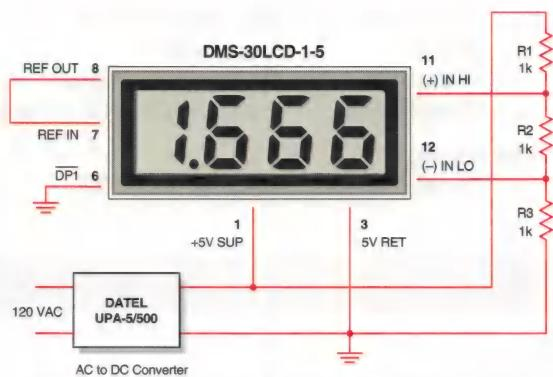

Figure 3. Differential Input Configuration (5V-Powered Models)
2. Differential Input Configurations: Differential measurements can be made with either 5V-powered or 9V-powered meters. Figure 3, though not a practical real-world application, uses a voltage divider to demonstrate the concept of a differential input signal. Be careful not to exceed the $\pm 2V$ common mode voltage limitation for 5V-powered meters.